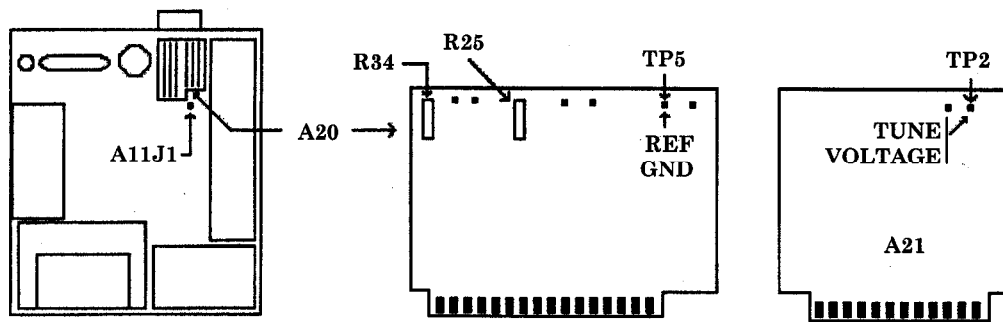

Figure 7. A20 board.
- (51) Connect a jumper between A20TP5 and A21TP2 (fig. 7).
- (52) Connect microwave frequency counter **Input 1** to **TI 1ST LO OUTPUT** through attenuator No. 2.
- (53) Set attenuator No. 2 for 10 dB.
- (54) Remove 8 cable (gray) at A11J1 (fig. 7).
- (55) Press TI keys as listed in (a) through (e) below:
- (56) Press TI **RECALL, 1** and adjust A20R34 (fig. 7) for a microwave counter indication of $2300.0 \text{ MHz} \pm 0.1 \text{ MHz}$ (R).
- (57) Press TI **RECALL, 2** and adjust A20R25 (fig. 7) for a microwave counter indication of $6150.0 \text{ MHz} \pm 0.1 \text{ MHz}$ (R).
- (58) Repeat (56) and (57) above until requirements are met.
- (59) Disconnect microwave frequency counter from **TI 1ST LO OUTPUT**. Reconnect termination to **TI 1ST LO OUTPUT**.
- (60) Remove jumper from between A20TP5 and A21TP2 and reconnect 8 cable (gray) to A11J1 (fig. 7).
- (61) Press TI **2-22 GHz** key.
- (62) Connect TI **RF INPUT** to synthesized signal generator No. 1 **RF Output**.
- (63) Press TI keys as listed in (a) and (b) below:
- (64) Set synthesized signal generator No. 1 for an output frequency of 4 GHz at an output level of -10 dBm.
- (65) Press TI **MARKER PEAK SEARCH** key.